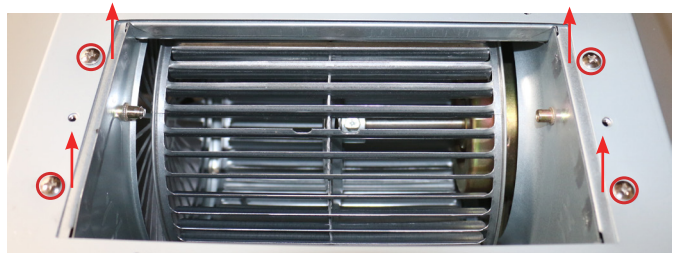

Figure 5
- Remove all 4 screws holding the blower casing. (Figure 5)